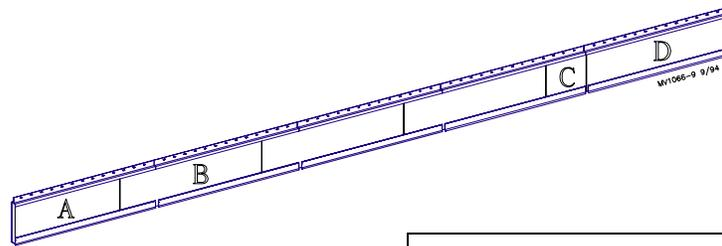

Figure 3.
- Remove the styrofoam from the first baffle section. Cut approximately 12 inches (30.5 cm) off one end of the styrofoam section. Reinstall the 36 inch (91.4 cm) section of styrofoam to the first baffle section. See Figure 3 (section A).
**Legend: Figure 3**
Repeat this procedure for each baffle section except the last two sections. See Figure 3 (sections C & D)
- Install the 12 inch (30.5 cm) section cut out in step 4 in the next to the last baffle section. The last section operate with, but, will not be connected to, the rest of the baffle board sections. See Figure 3.